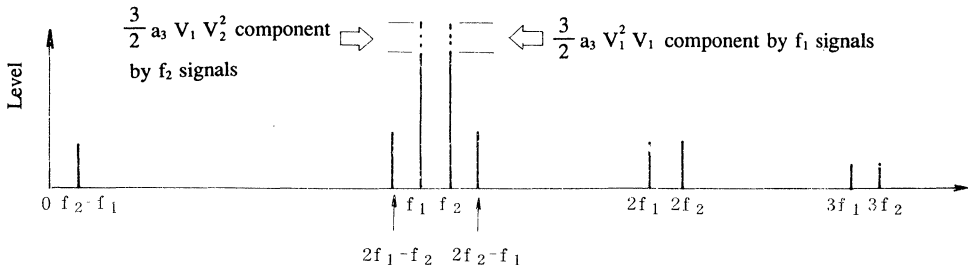

Figure 5.1
In equation (3),  $[ \dots ]$  represents the inter modulation term and  $\square$  represents the cross modulation. Figure 5.1 shows equation (3) in spectrum figure.